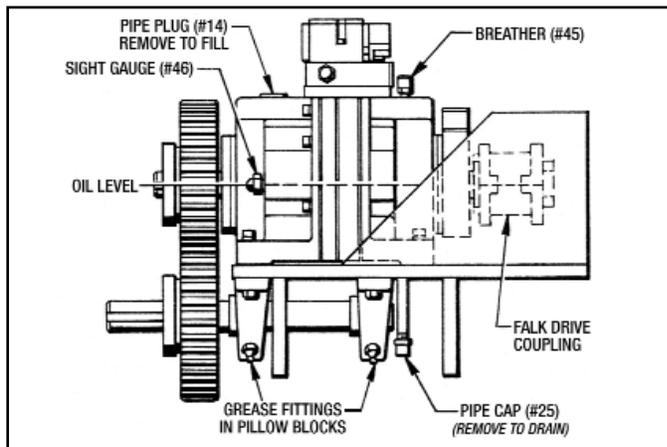

Figure 7 - Lubrication
A. CHECKING THE OIL LEVEL (See Figure 7)
C. CHANGING THE OIL (See Figure 7)
(See Figure 7)